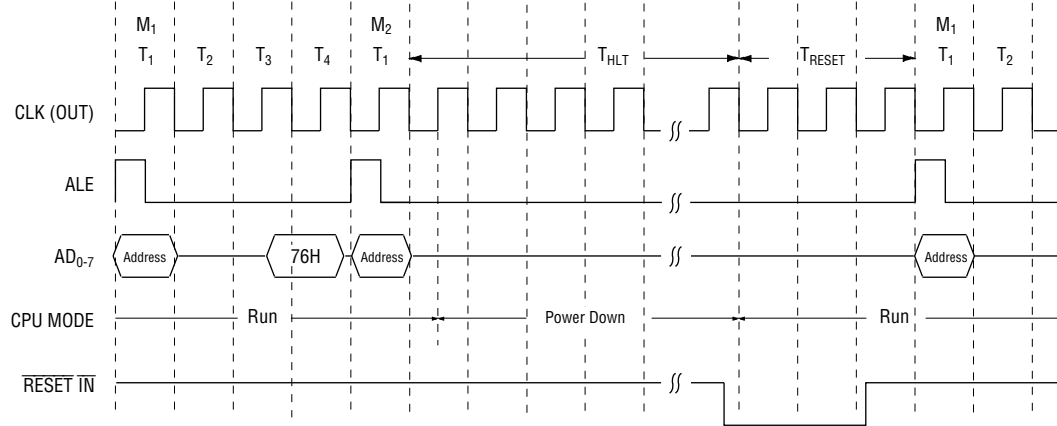

Figure 6 Started by HALT and Released by RESET IN
### (1) Start by means of HALT command (See Figures 6 and 7.)